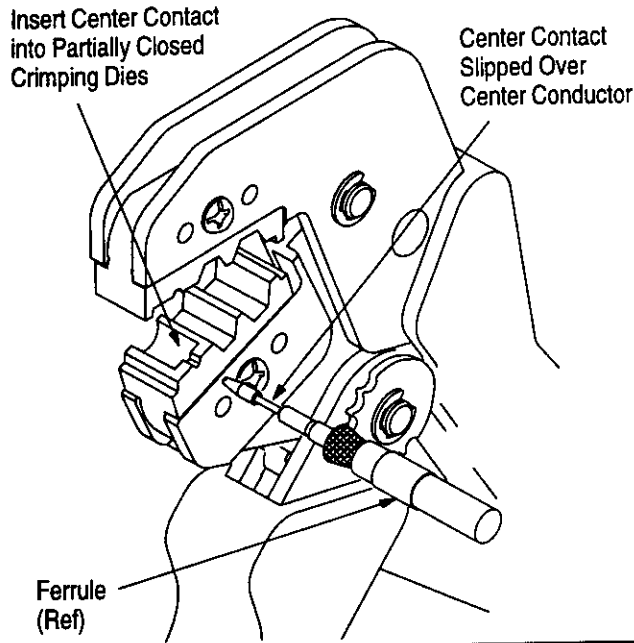

Figure 2
**4. CRIMPING PROCEDURE** (Figure 2)